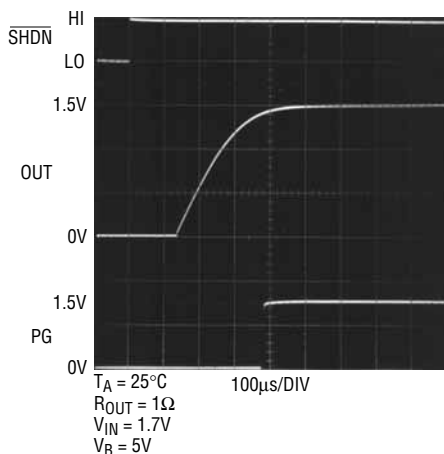

Figure 2. Soft-Start with Boost Disable
**ADJ (Pin 8):** Output Adjust Pin. This is the input to the error amplifier. It has a typical bias current of 0.1nA flowing into the pin. The ADJ pin reference voltage is 0.4V referenced to ground. The output voltage range is 0.4V to 2.6V and is typically set by connecting ADJ to a resistor divider from OUT to GND. See Figure 2.
The LTC3026 also includes a soft-start feature to prevent excessive current flow at  $V_{IN}$  during start-up. When the LDO is enabled, the soft-start circuitry gradually increases the LDO reference voltage from 0V to 0.4V over a period of approximately 200 $\mu$ s, see Figure 2.